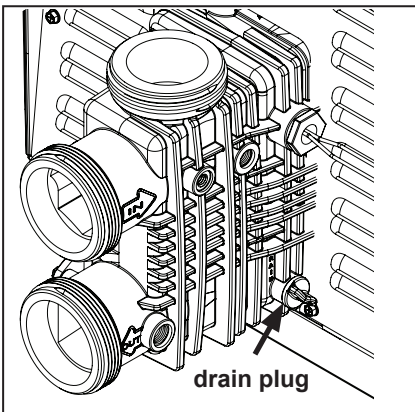

Figure 1. Remove Drain Plug
6. Drain the heater by removing the drain plug on the inlet/outlet header, see Figure 1. Replace the drain plug when the heater is fully drained.